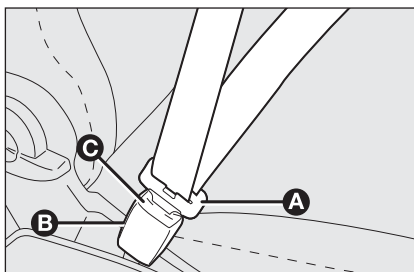

fig. 1
To fasten the seat belts, take hold of the tongue **A-fig. 1** and insert it into the buckle **B**, until hearing the locking click.
Press button **C-fig. 1** to release the belt. Accompany the belt while it is being rewound to prevent twisting.
**Never press button C-fig. 1 when travelling.**